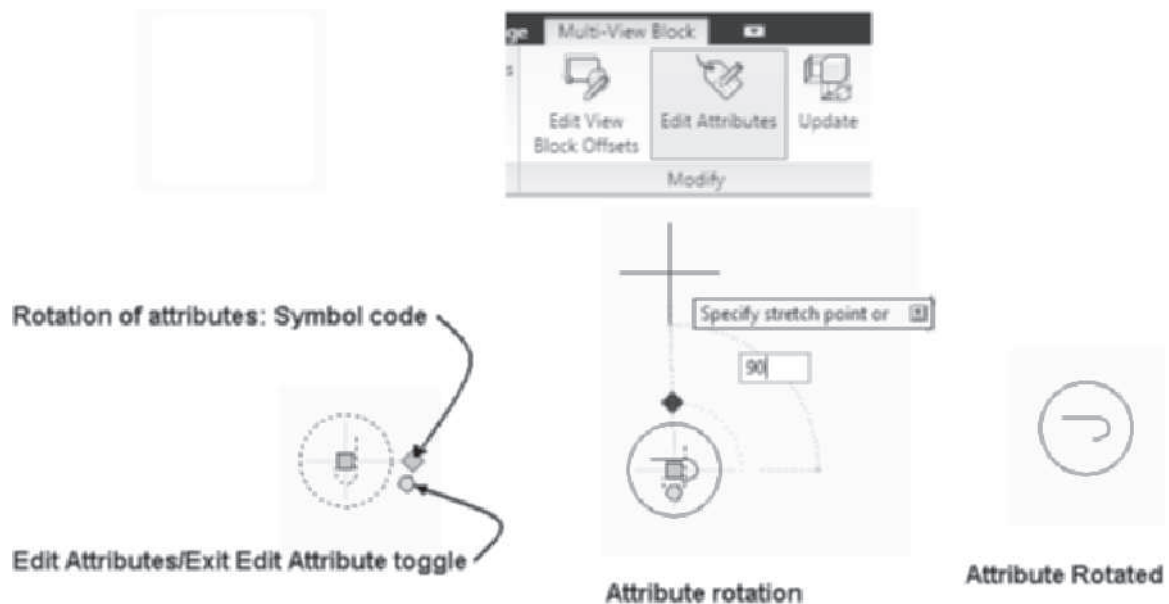

FIGURE 10.21 *Editing the orientations of attributes in the workspace*
- 3. Select the Location or Rotation grips and move the cursor to display the dynamic dimensions as shown in Figure 10.21.
- 4. Press TAB to specify a horizontal or vertical dimension for edit as shown in Figure 10.21 and overtype the desired distance for edit.